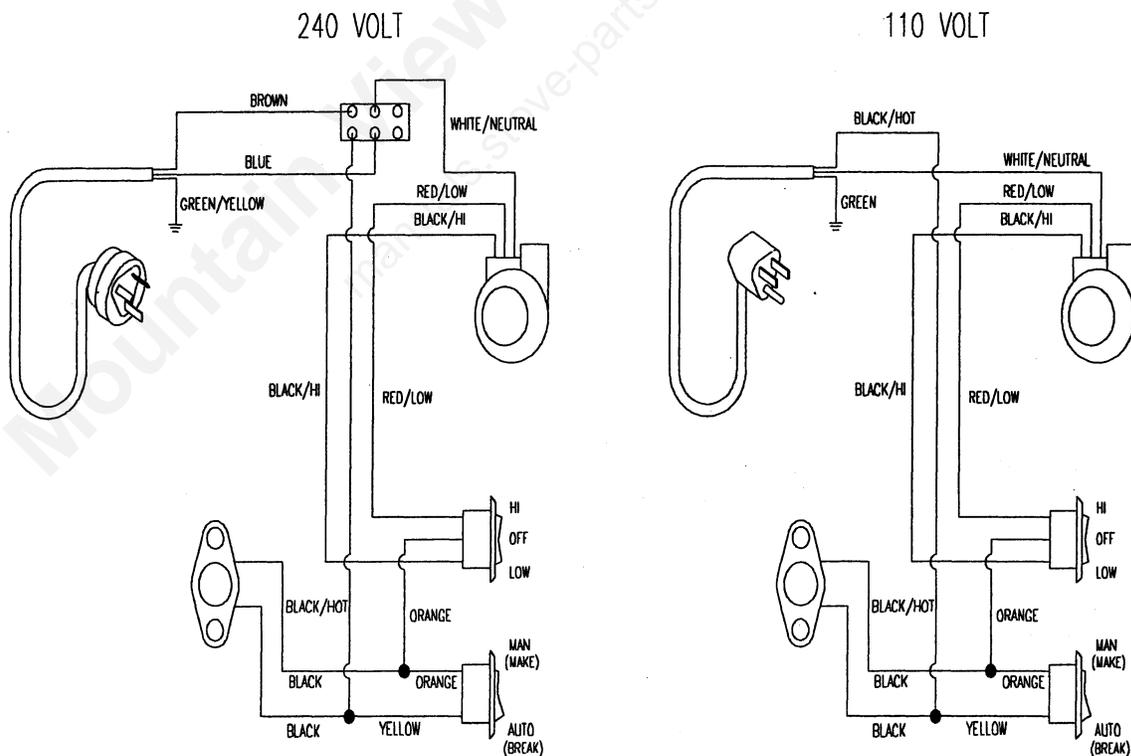

Figure 21
6. See Figure 21 for fan electrical schematic.